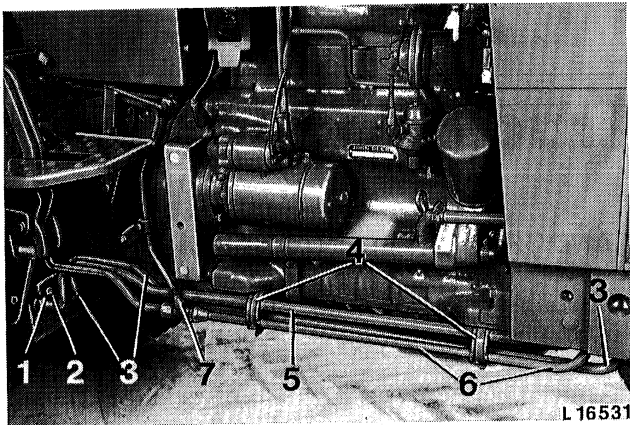

Fig. 2 — Disconnecting Hydraulic Lines
Remove both clamps 4 (fig. 2).
Engage pump shaft in hydraulic pump drive shaft and at the same time slide oil return line and hydraulic pump inlet line into clutch housing bores (making sure both seal rings have been installed) and tighten both lines (see fig. 2). Tighten cap screw 2 (fig. 2) of retainer 1 to the specified torque.
*NOTE: Before installing return line 3 (fig. 2) and inlet line 5 coat both bores in transmission case with grease.*
Connect hydraulic pump pressure line and install line spacers and clamps (see fig. 2).